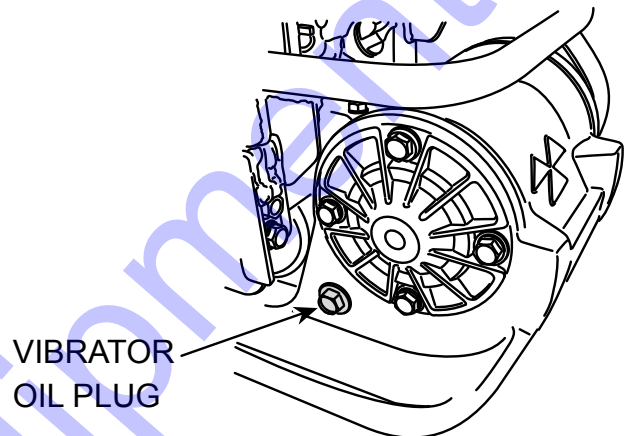

Figure 9. Vibrator Oil Plug
2. Check vibrator oil level by removing the oil plug (vibrator oil gauge) as shown in Figure 9. The oil level should be up to the oil plug. **IMPORTANT**, if oil is required, replace using only SAE10W-30 motor oil.
- Place the fuel valve lever (Figure 9) in the **OFF** position.